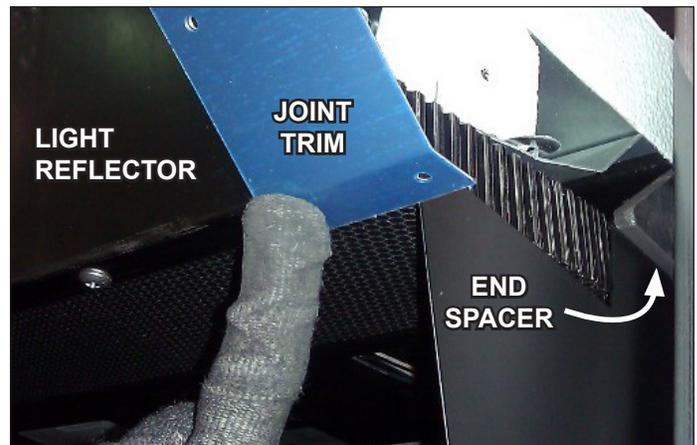

Fig. 6 Cornice joints
8. End spacers (optional) create a small gap between the light reflectors of adjoining cases. Secure the light reflector joint trim (Fig. 6) over the gap with #6 self-tapping screws. **NOTE: be careful not to damage any case wiring housed behind the light reflectors.**